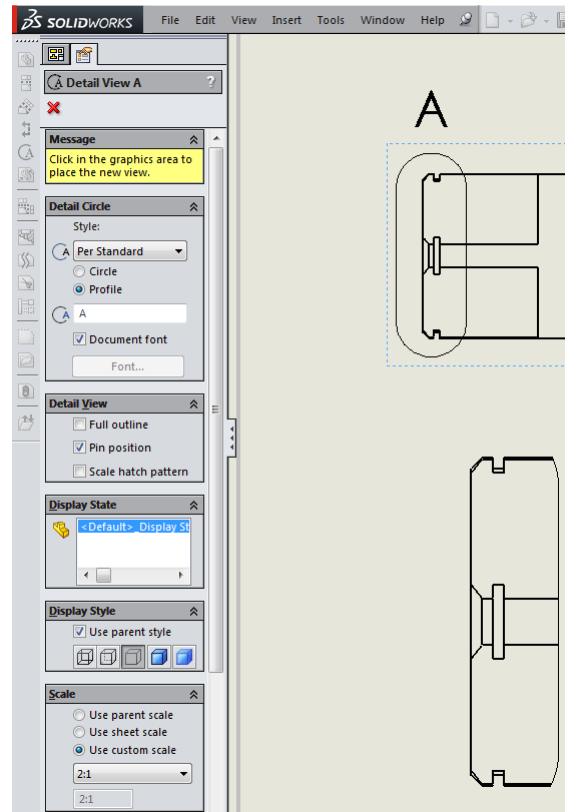
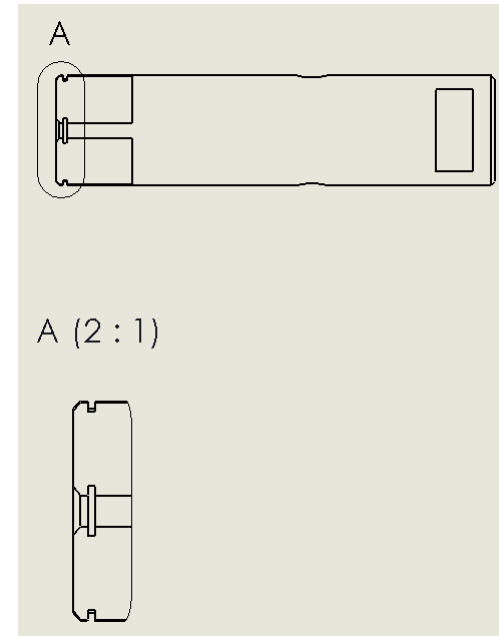

Fig4
Fig5
Set up the identifier of the *Detail Circle* (A) and the *Scale* in the *Detail View* dialog then click on the sheet to place the new view (Fig4). Drag the label of the *Detail View* a bit closer to the outline of the view (Fig5). The *Detail View* is completed.